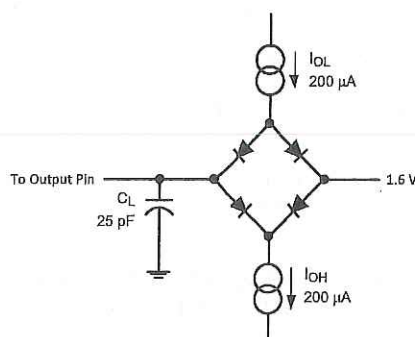

Figure 1. Timing Test Circuit
- (1) Data sheet min/max specification limits are specified by design, test, or statistical analysis.
- (2) Measured with the timing test circuit shown in Figure 1 and defined as the time taken by the output signal to cross 1.0V.
- (3) Measured with the timing test circuit shown in Figure 1 and defined as the time taken by the output signal to cross 1.0V or 2.0V.
- (4) t_{DIS} is derived from the time taken by the outputs to change by 0.5V with the timing test circuit shown in Figure 1. The measured number is then adjusted to remove the effects of charging or discharging the output capacitance. This means that t_{DIS} is the true bus relinquish time, independent of the bus loading.